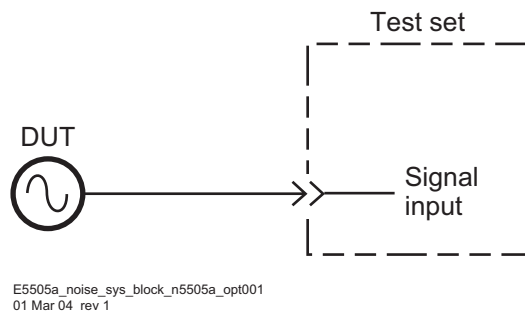

Figure 217 AM noise system with N5500A opt 001
- 1 Using information shown in Figure 222 and Figure 223 on page 291, Connect the circuit and tighten all connections. If the N5500A Option 001 or N5507A is available, use one of the connection diagrams described in Figure 217 on page 285.